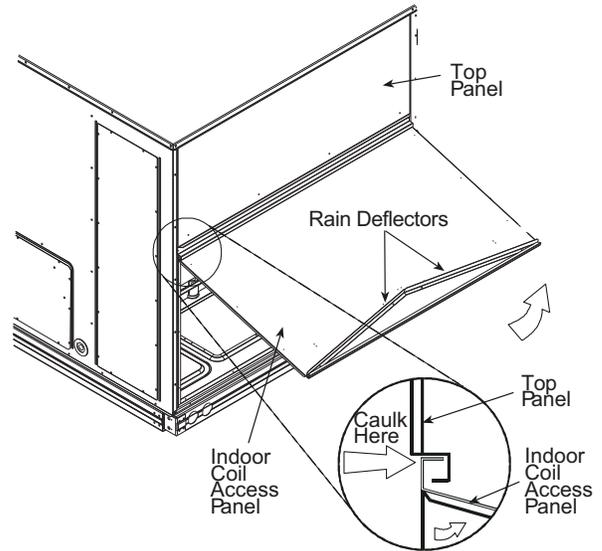

Fig. 20 – Indoor Coil Access Panel Relocation
1. The indoor coil access panel will be used as the top of the hood. If the panel is still attached to the unit, remove the screws along the sides and bottom of the panel. See Fig. 20.
7. Install the 2 rain deflectors on the edge of the hood top as shown in Fig. 20.
8. Caulk the ends of the joint between the unit top panel and the hood top as shown in Fig. 20.